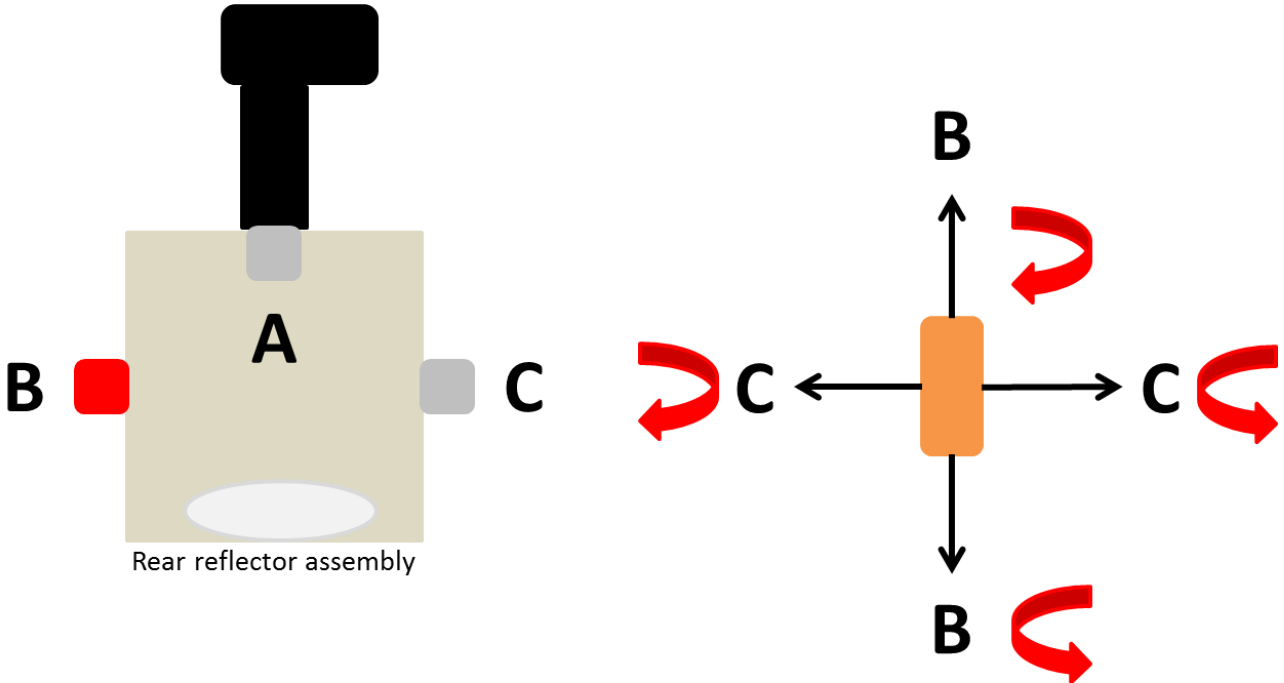

Figure 8: Q Series lamp housing adjustment knob diagram.
3. There are three knobs on the base of the Q Series Housing that move the installed light source within the housing and thus, its primary image within the output profile. Using Figure 8 for reference, use knobs B and C to move the primary image of the IR emitter in the center of the circular output profile. Turning knob A clockwise moves the IR emitter farther from the parabolic mirror and closer to the rear reflector assembly. Likewise, turning knob A counter-clockwise moves the IR emitter closer to the parabolic mirror and farther from the rear reflector assembly. Knob A is used to obtain a sharper primary image of the IR emitter, as the IR emitter is moved relative to the focal point of the parabolic mirror. Adjust knob A until the position at which the sharpest primary image obtainable has been obtained.